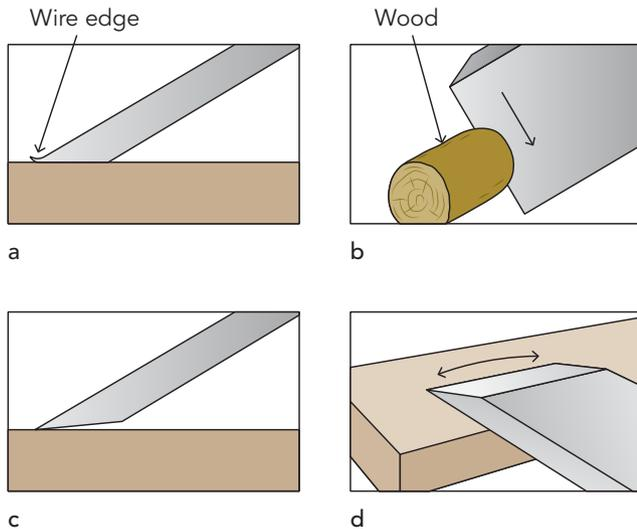

Figure 8.60 Steps in honing planes and chisels
- 4 Hone until a burr, or wire edge, is obtained (Figure 8.60 a).
- 5 Remove the burr by drawing the edge across the end grain of a piece of hard wood (Figure 8.60 b).
- 6 With the burr completely removed, the tool is ready for final honing to a very fine, sharp edge. Stroke the blade very lightly over a fine stone, using circular or figure 8 movements (Figures 8.60 c).
- 7 Reverse the blade occasionally and lightly stroke the face, holding it perfectly flat (Figure 8.60 d).